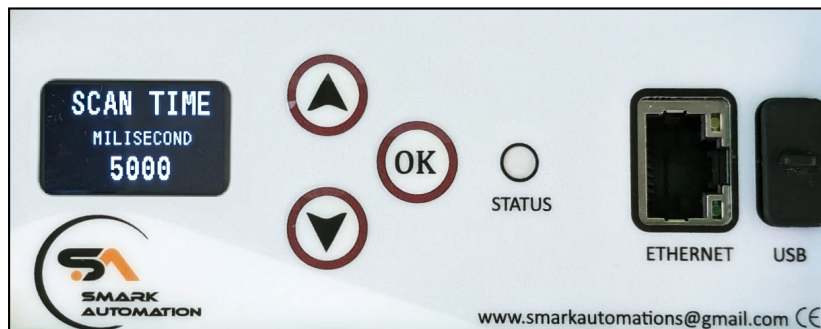

Figure 26: Configuring Scan Time for EXT Device
1. **Access EXT Device Menu:** Navigate to the "EXT Device" option from the navigation menu. Pressing OK will prompt the user to set the Scan Time as shown in Fig 26.